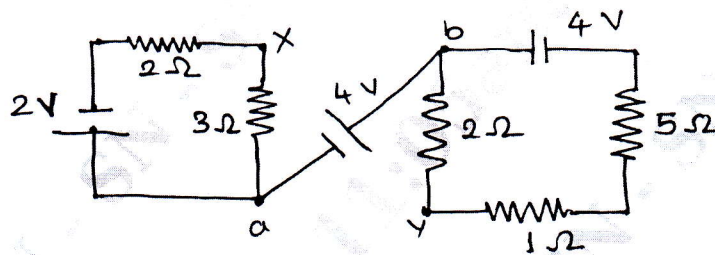

Fig.Q2(a)
- For the circuit shown in Fig.Q2(a). Obtain voltage between points X and Y. (08 Marks)